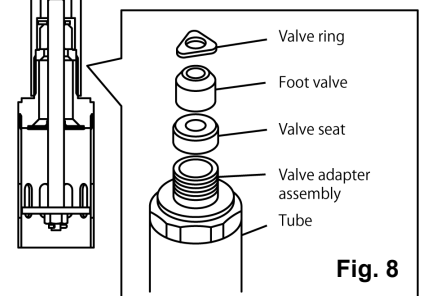

Fig. 8
- 6) Fix the cylinder part of the lower pump on vise. Set a spanner on the valve adapter assembly and unscrew it. The valve seat, the foot valve and the valve ring can be removed. (Fig. 8)